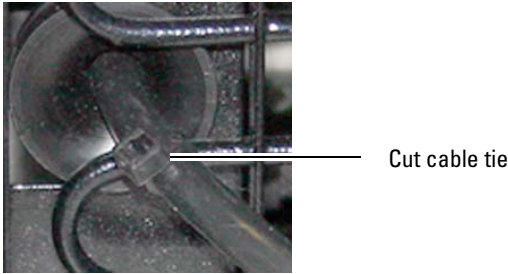

Figure 2: Cut cable tie to free line cord
- Cut the cable tie holding the power cord that runs through the refrigeration assembly (Figure 2).